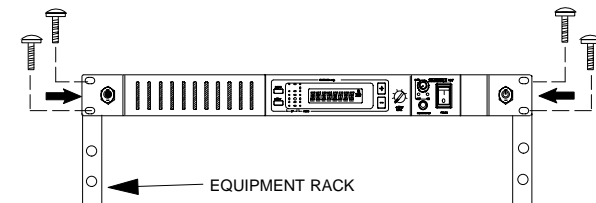

FIGURE 8
3. Insert the receiver into the equipment rack and secure it with the supplied screws. See Figure 8.